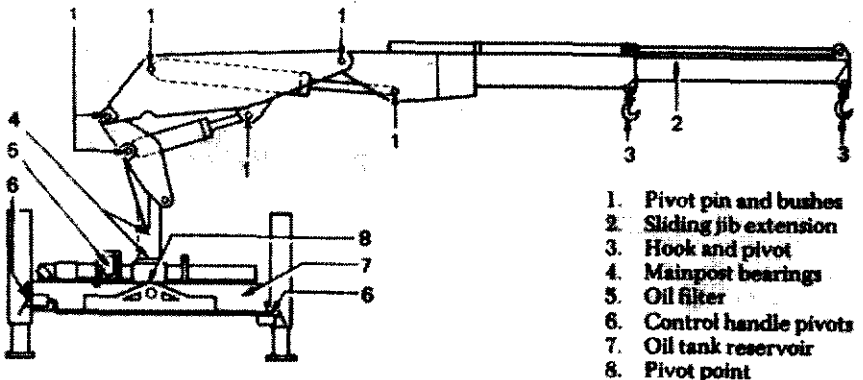

Fig. 31 Crane and components identification
### Pivot pins and bushes (Fig. 31 item 1)
### Sliding jib extension (Fig. 31 item 2)
### Hook and pivot (Fig. 31 item 3)
### Mainpost bearings (Fig. 31 item 4)
### Oil filter (Fig. 31 item 5)
### Control handle pivots (Fig. 31 item 6)
### Oil tank reservoir (Fig. 31 item 7)
### Pivot point (Fig. 31 item 8)